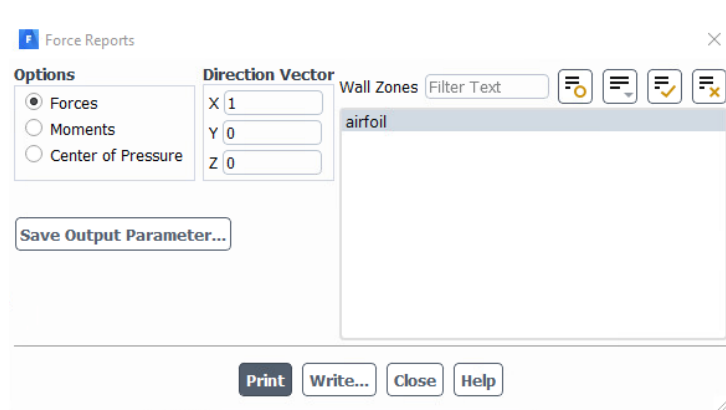

Figure 23. Drag Force Report settings.
4.2. In the “Force Report” pop-up window, set the options as indicated in Figure 23. Be sure to set the **Direction Vector** to “X=1”, “Y=0”, and “Z=0”, as shown in Figure 23. Then click **Print**, and click **Close**.